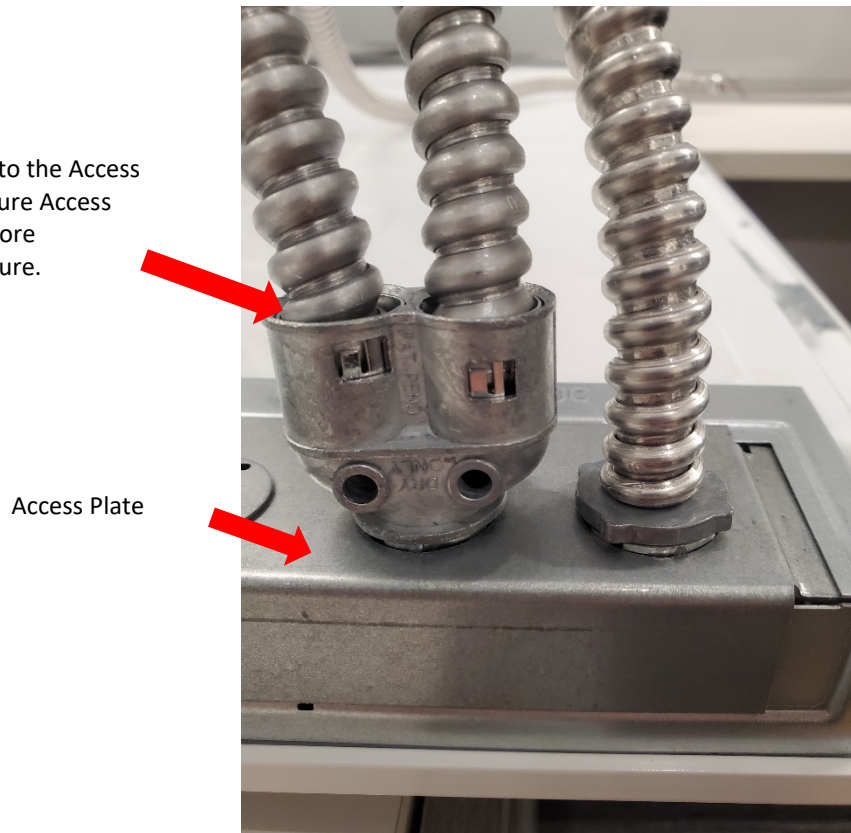

Figure 11: Factory installed emergency with incoming supply connections and dimming.
6. If fixture includes factory installed emergency battery that is not externally mounted, refer to Figure 10 for incoming supply connections and Figure 11 for incoming supply connections with dimming.